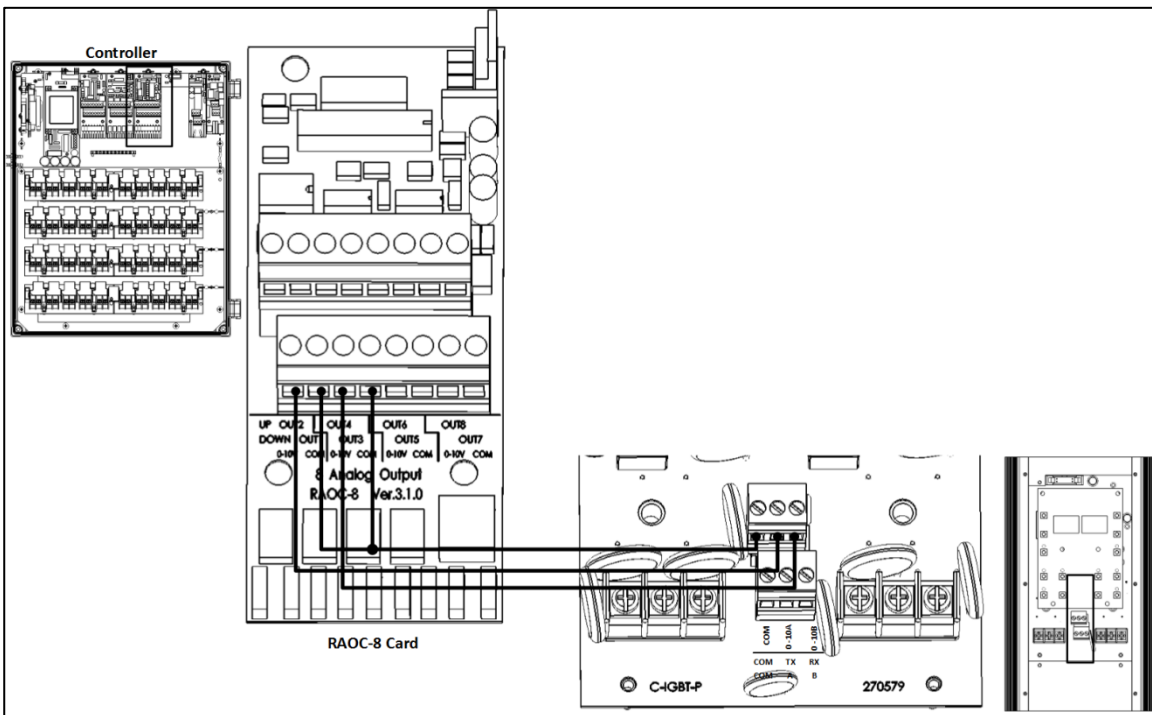

Figure 6: RAOC-8 (Analog Output) to RLED 2.0 Wiring Diagram
1. Connect the 0 – 10 VDC (+) and COM (-) wires from the external device to terminal ports "0 10V A", "0-10V B" and COM (Figure 6).